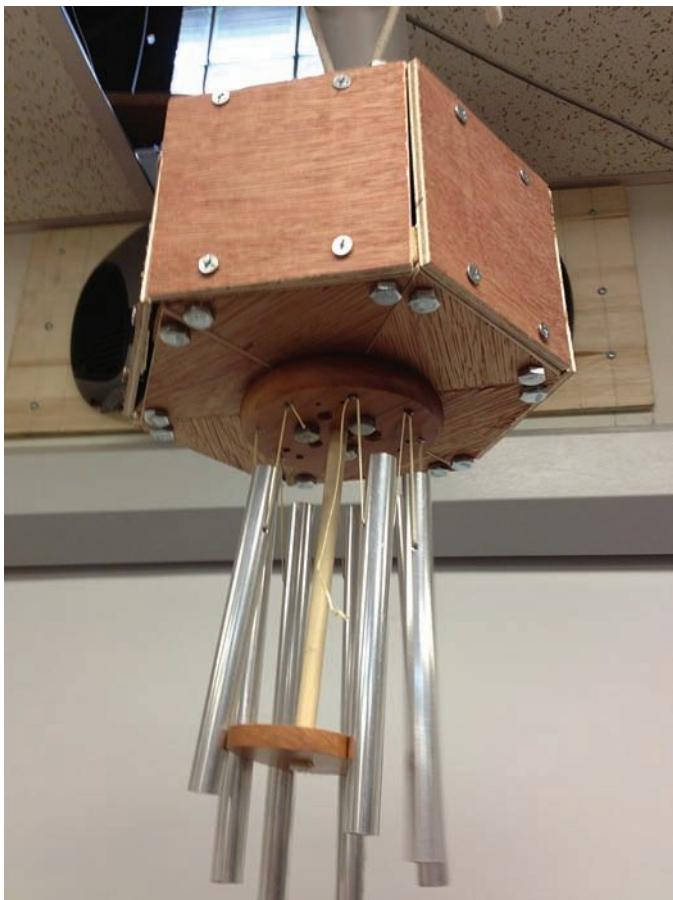

FIGURE 11.21 The wind chimes are completed and ready to make noise!
- 14.** Finish up by screwing the side panels onto the bottom hexagon. As a final step, glue the clapper onto the end of the dowel (see Figure 11.21).